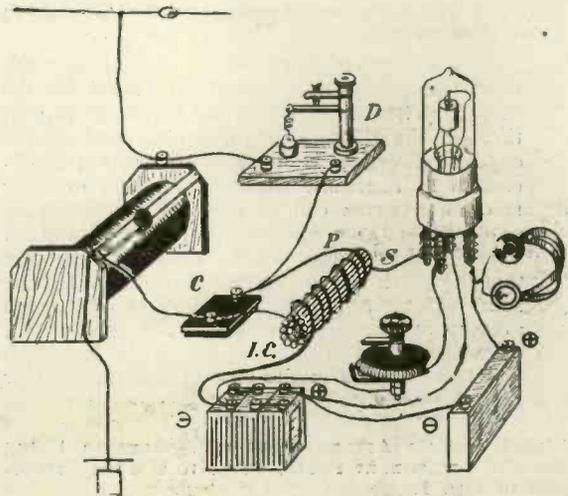

Fig. 1.—Pictorial representation of circuit using step-up transformer.
Fig. 1 shows a complete crystal receiver in which a step-up transformer is employed. It will be seen that around the bundle of iron wires IC, which may be called the iron core of the transformer, we have two windings, one marked P, consisting of a relatively small num-
**How Does the Fig. 1 Circuit Operate?**
**Sketch Out an Arrangement of Apparatus Using Bought Component Parts, so as to Use the Principles of Fig. 1.**
**Draw the Circuit Diagram Corresponding to the Arrangement of Apparatus Shown in Figs. 1 and 2.**